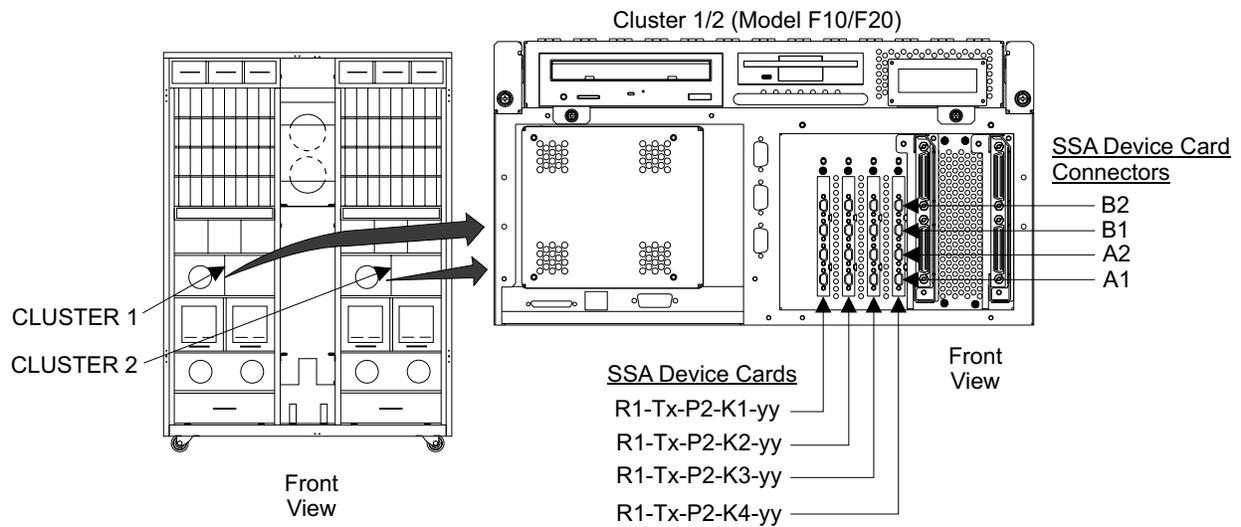

Figure 138. SSA Device Card Removal (S009109)
1. Open the front cover of the 2105 Model F10/F20 rack and locate the cluster bay with the cluster bay SSA device card you are replacing, see Figure 138 on page 131: